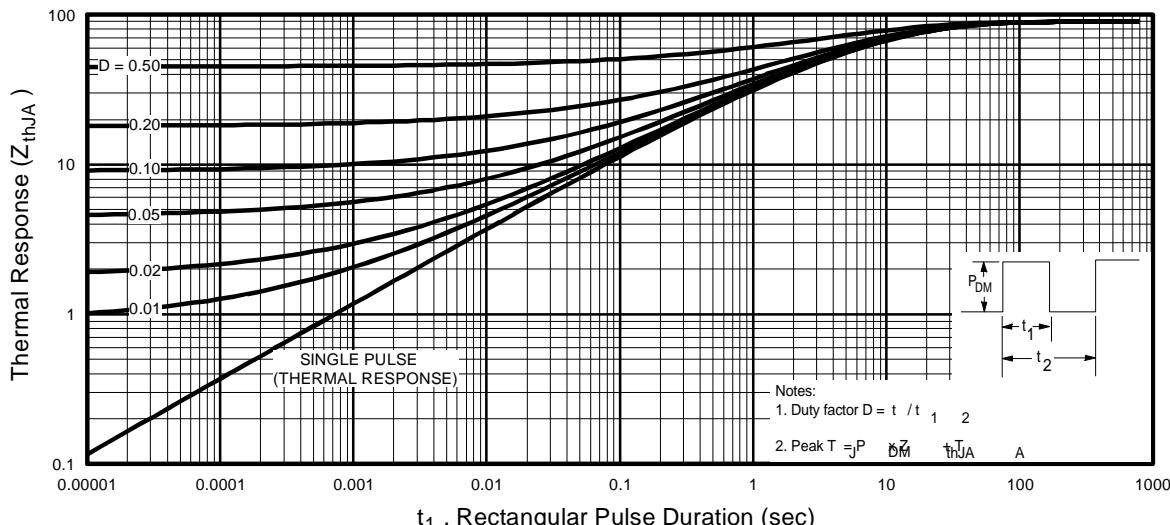

Fig 23. Maximum Effective Transient Thermal Impedance, Junction-to-Ambient
① Repetitive rating; pulse width limited by max. junction temperature. (See fig. 23)
② N-Channel $I_{SD} \leq 2.4\text{A}$, $di/dt \leq 73\text{A}/\mu\text{s}$, $V_{DD} \leq V_{(\text{BR})\text{DSS}}$, $T_J \leq 150^\circ\text{C}$